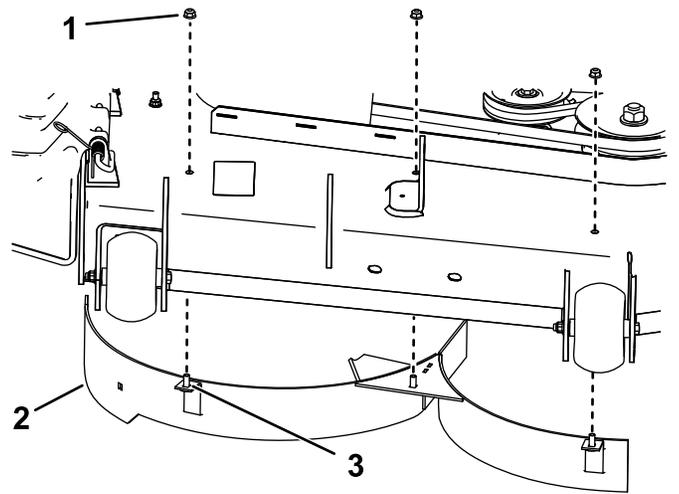

**Figure 7**
1. Remove the nut and bolt from the location shown in Figure 7 or Figure 8.